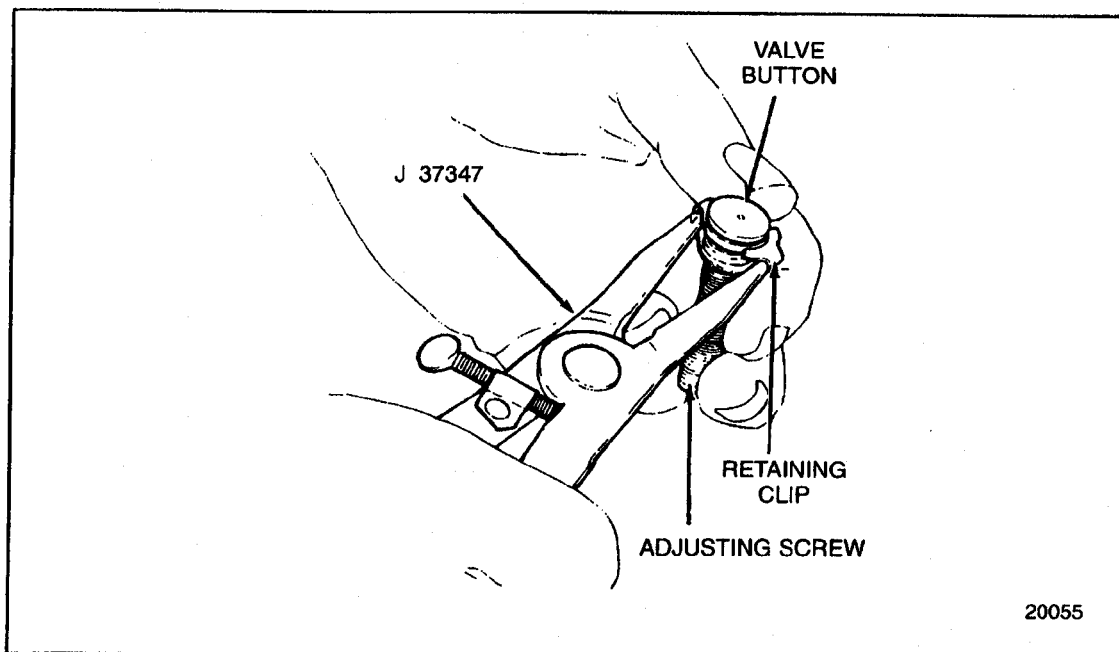

Figure 1-57 Valve Button Retainer Clip Removal and Installation
- [a] Spread the retaining clip with expander and remove the button. See Figure 1-57.